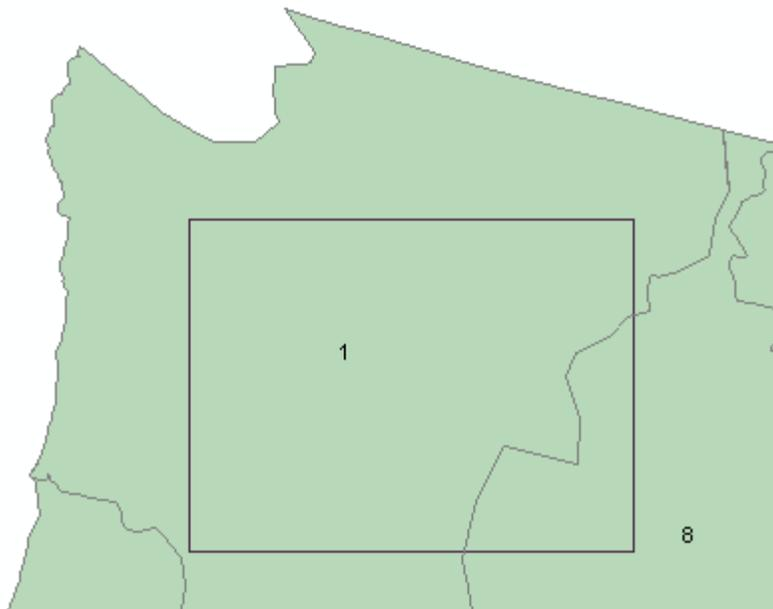

Figure 4-1. Draw extent box.
4. To begin, click the **Get LANDFIRE National Map Data** tool icon: . With the tool, click to the upper left of the area of interest and drag a box to the lower right (fig. 4-1).